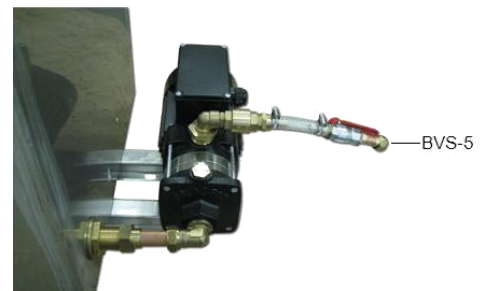

Figure 4.12
2. Turn the ball valve (BVS-5) to “open”, (see Figure 4.12).